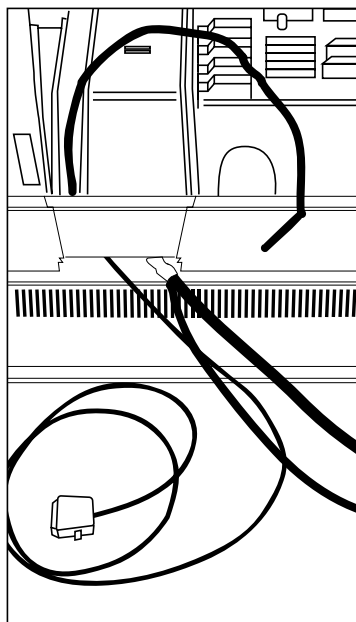

Figure 5-10. J16 Connector
3. Mark an X on the side of J16 that faces the front of the terminal. Remove the J16 connector from the keyboard connector bracket. Slide the J16 connector under the printer mounting plate. See **Figure 5-10**.